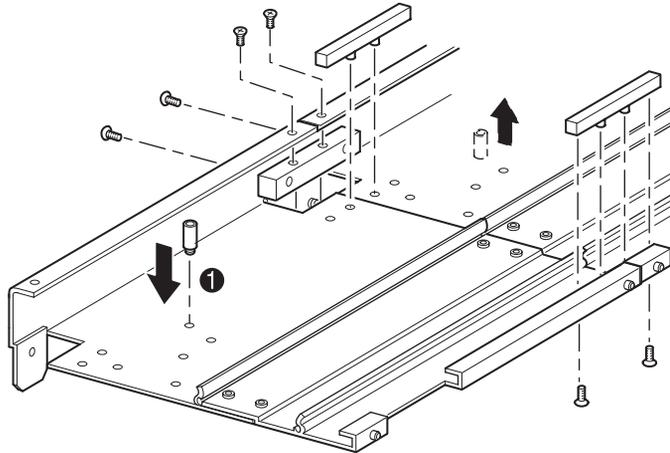

Figure 18: Installing tie bars
- b. Align the pins of the two narrow tie bars with the holes in the extension and PTM base unit (see Figure 18) and then attach them using four mounting screws (two screws for each narrow tie bar).
- c. Attach the large tie bar (beveled edge to the inside corner of the PTM base unit and extension) using four mounting screws (see Figure 18).
11. Remove the bottom stop standoff from the PTM base unit and then attach it to the corresponding mounting hole (❶, Figure 18) in the last unit of the extended PTM.